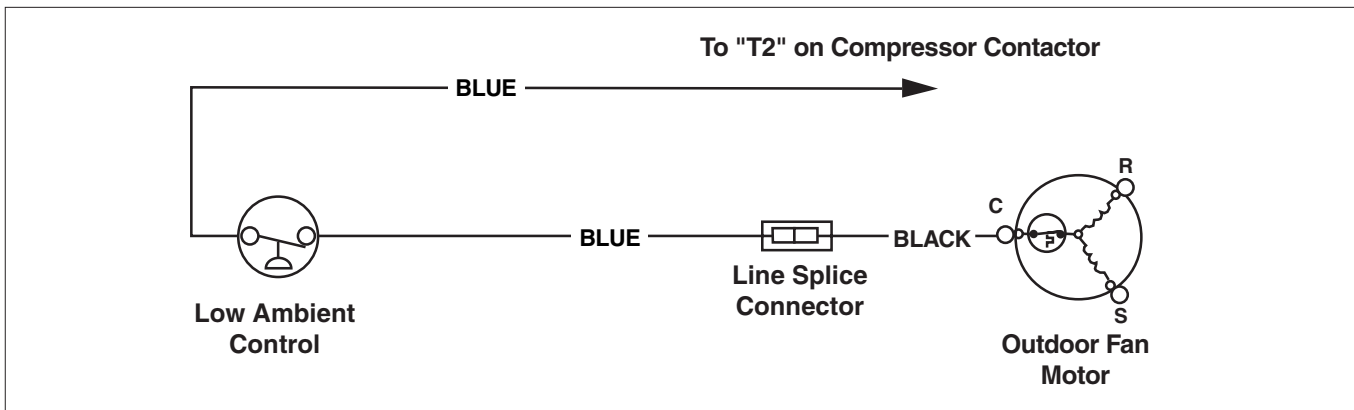

Figure 1. Air Conditioner Low Ambient Control Kit Wiring Diagram
- c) Connect the other pressure switch lead to "T2" on the contactor. (See Figure 1)